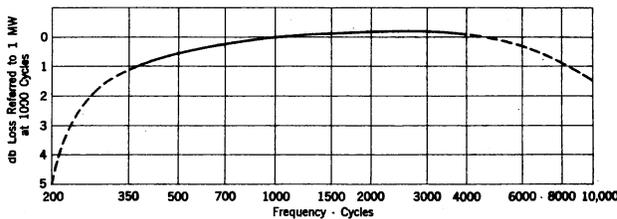

Fig. 3 - 12A Set Loss Frequency Characteristic
3.03 This measuring set has a practically flat receiving characteristic in the frequency range from 700 to 4000 cycles - the maximum deviation being about 0.2 db. In the range below 700 cycles, due to the action of the low-frequency filter the characteristic falls off, the loss at 350 cycles being about 1 db below the 1000-cycle loss. At 60 cycles, the loss is about 25 db below the 1000-cycle loss. These values are decreased a small amount when the resistance in the holding circuit is increased by opening the contacts of the jack designated "L". In the range above 4000 cycles due to the capacitance of the rectifier the characteristic also falls off so that at 10,000 cycles it is about 1.5 db below the 1000-cycle loss. Where desired the error at these and other frequencies may be determined and a calibration curve plotted for future reference. Fig. 3 gives the average loss frequency characteristic curve for 1 MW input, for several sets. In the range between 350 and 4000 cycles this curve may be considered typical of the performance of any set.